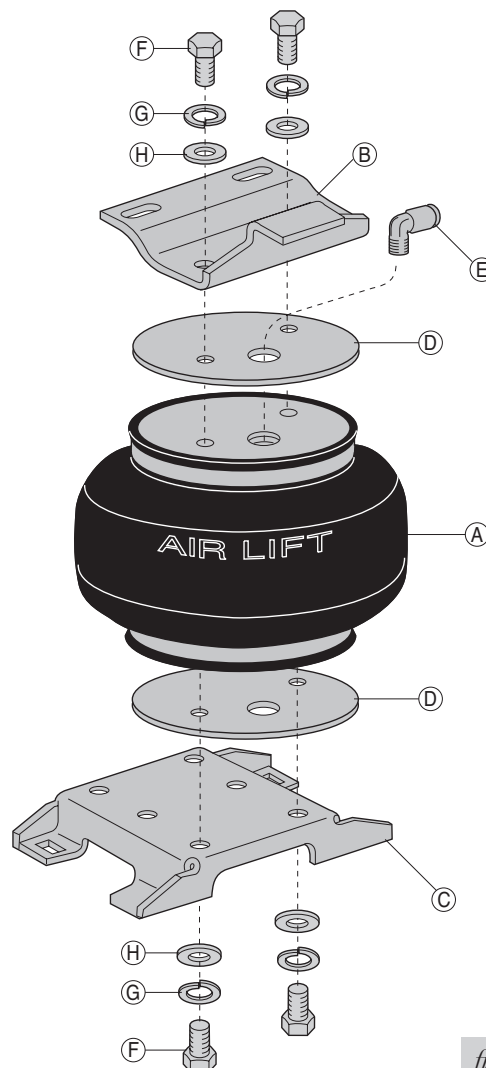

fig. 2
1. Place backer plate (D) on the top of the air spring (A).
2. Install 90° elbow fitting (E) to the top of the air spring. Tighten finger tight plus 1 and 1/2 turns. Be careful to only tighten on the metal hex nut. Do not over tighten.
3. Set the upper bracket (B) onto the air spring (A). Make sure that the air fitting port is on the same side as the tab. Attach the bellow-bracket assembly using 3/8 " bolt (F), 3/8 " lock washer (G), and 3/8 " flat washer (H). Tighten to 20 ft-lbs (Figure 2).
4. Set a backer plate (D) onto the bottom of the air spring assembly.
5. Place the lower bracket onto the air spring assembly in an offset position (Figure 2).
7. Use a 3/8 " bolt (F), a 3/8 " lock washer (G), and a 3/8 " flat washer (H) through the holes marked with an *iA* to attach the lower bracket and backer plate to the assembly. Again, be sure that the bellow is offset to the fitting side. Tighten hardware to 20 ft-lbs (Figure 2).